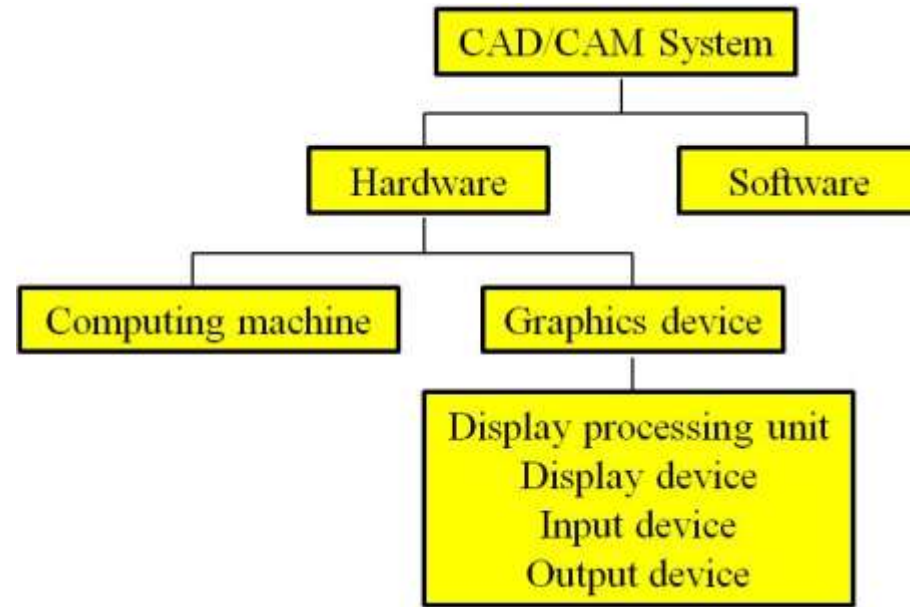

Figure 1: Components of CAD/CAM systems.
➤ Thus, as shown in Figure 1, graphics devices and their peripherals for input and output operations, in addition to normal computing machines, comprise the hardware for CAD/CAM systems.
- As illustrated in Figure 1, a **graphics device** is composed of a display processing unit, a display device (called a monitor), and one or more input devices.